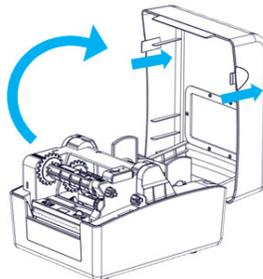

Figure 2.2.1
- 1) Press the cover open lever with both hands and turn the top cover upward to open it (see figure 2.2.1);